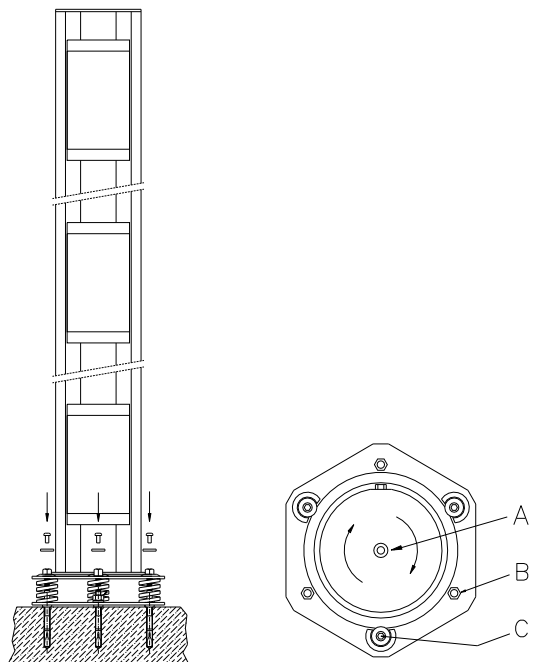

Figure 2
VERTICALITY (FIGURE 2)
ALIGNMENT (FIGURE 2)
2. Loosen the three Allen screws (C - Figure 2) that hold the rotating flange fitting in place.
6. Turn the mirror column to align the receiver column with the laser beam and tighten the three Allen screws (C - Figure 2).